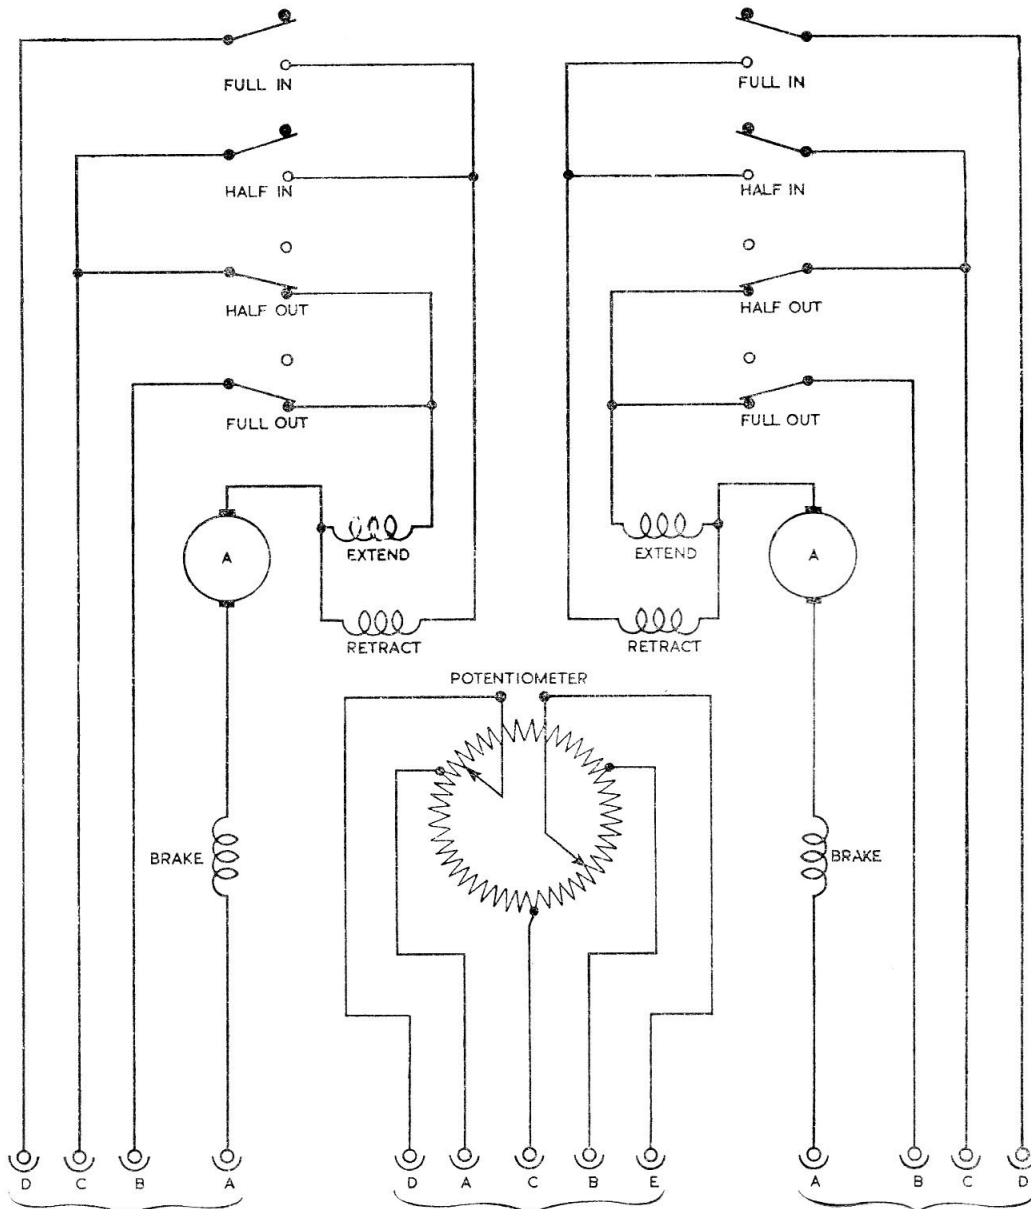

Fig. 2. Diagram of internal connections
- (3) A desynn type potentiometer transmitter is incorporated, being intended to monitor a receiver instrument giving continuous indication of ram position. Internal connections are as shown in fig. 2.